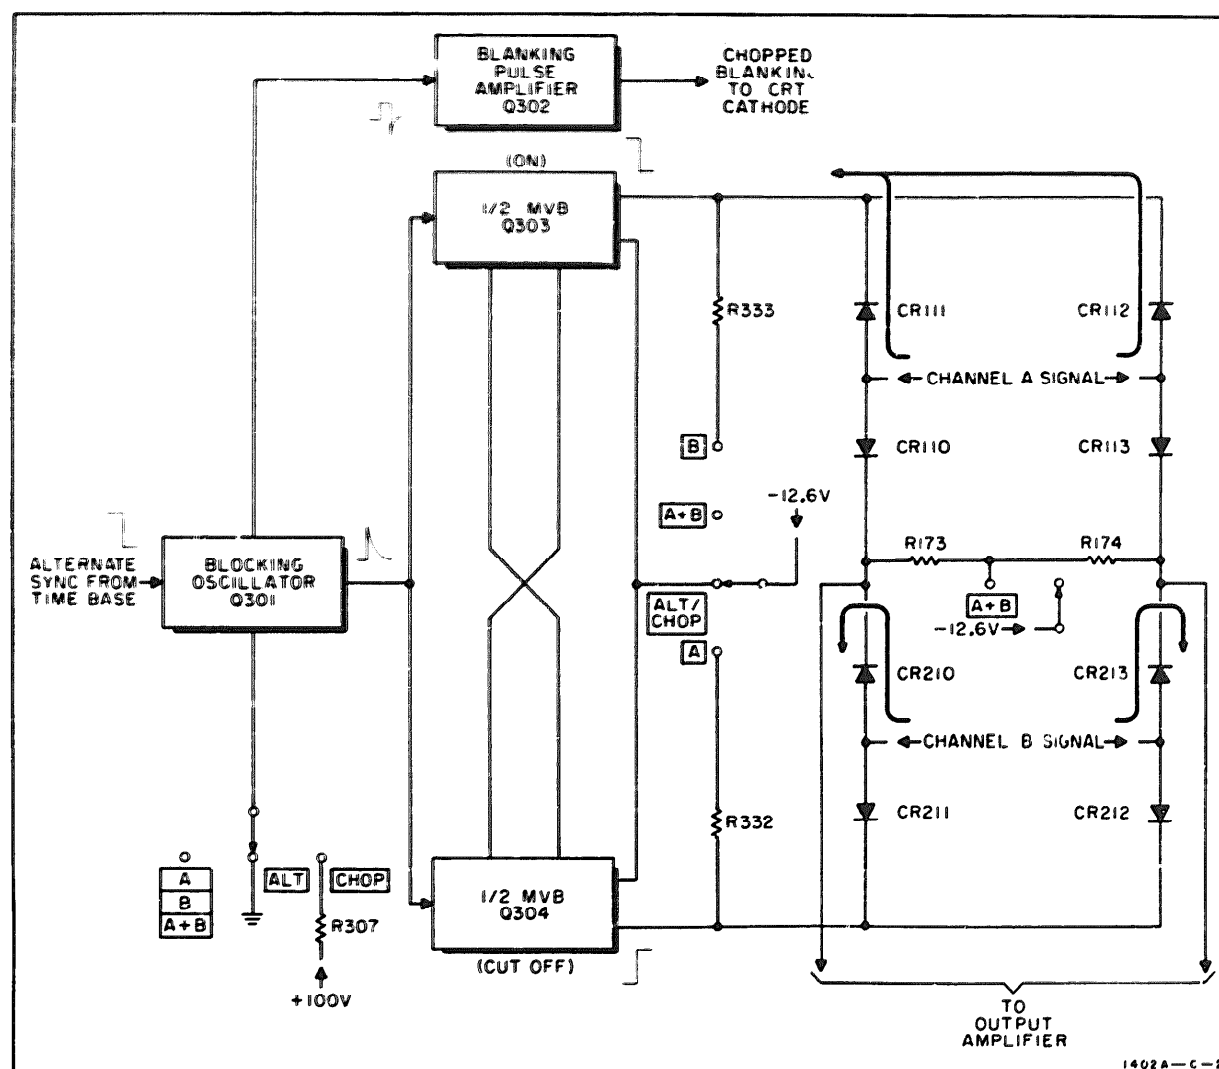

Figure 2-11. Switching Circuit Simplified
The switching circuit consists of a blocking oscillator, a blanking pulse amplifier, and a multivibrator. The switching circuit applies either cut-off bias or conducting bias to the switching diodes at the output of each amplifier channel (CR110 through CR113, and CR210 through CR213) and thus determines which channel is on at a given time. Fig. 2-11 is a simplified diagram of the switching circuit.
C. MULTIVIBRATOR. Transistors Q303 and Q304 are connected in a bistable multivibrator circuit. Depending on the position of the FUNCTION switch the multivibrator may be switched by positive triggers from Blocking Oscillator Q301 (ALT or CHOP), locked in either of its two stable states (A or B), or disabled (A+B). Fig. 2-11 illustrates signal conditions for ALTERNATE operation at a time when Q303 has been switched on (output more negative) and Q304 has been cut off (output more positive). With these output voltages, CR111 and CR112 are forward-biased, which shorts Channel A signal. The current of Channel A output transistors Q103 and Q104 flows through Q303 of the multivibrator. Diodes CR110 and CR113 are reverse-biased, which disconnects Channel A output from the output amplifier. Channel A is therefore "off". In Channel B, diodes CR211 and CR212 are forward-biased, which permits signal from Channel B output transistors Q203 and Q204 to be coupled to the output